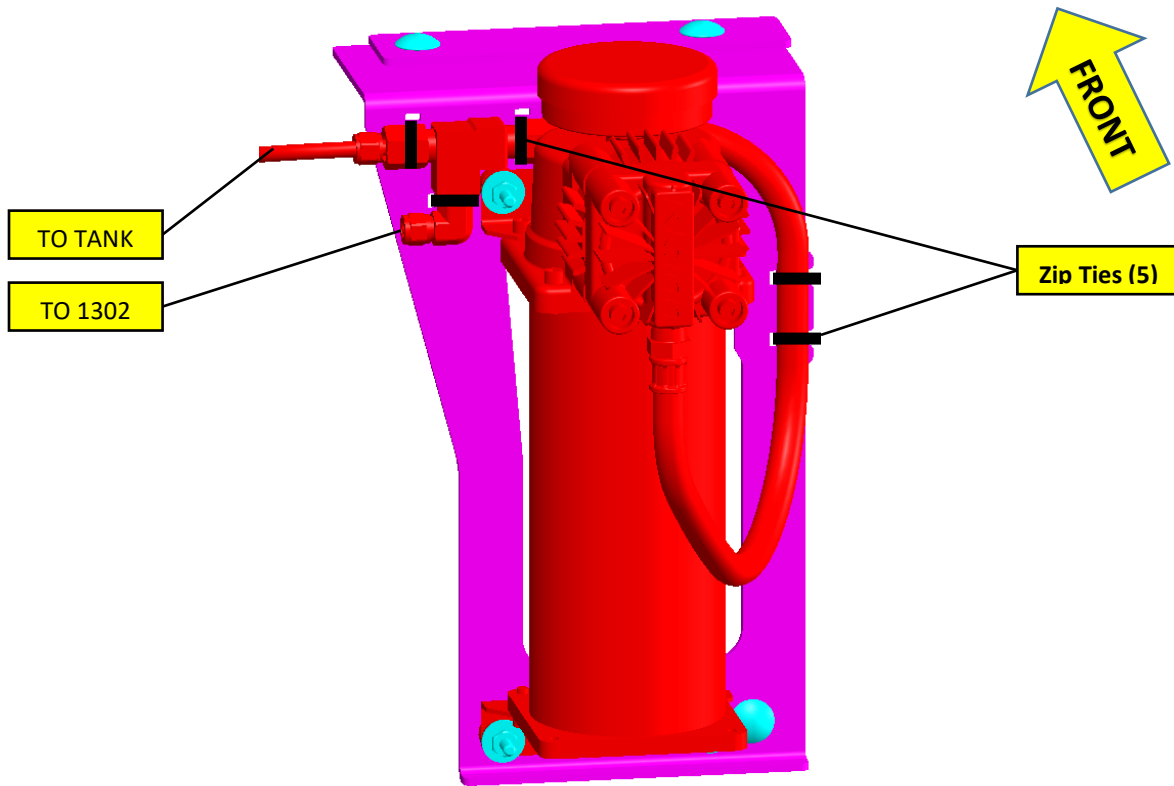

Figure 34 – Air Compressor Tubing Route & Zip Ties (Shown as if installed in vehicle)
- 9.11.3. Use supplied #X1 Air Tubing, Bracket, Fittings, and Hardware and attach Tubing to port shown in Figure 34 above. Some example locations include under hood, on, or below front/rear bumper, etc.